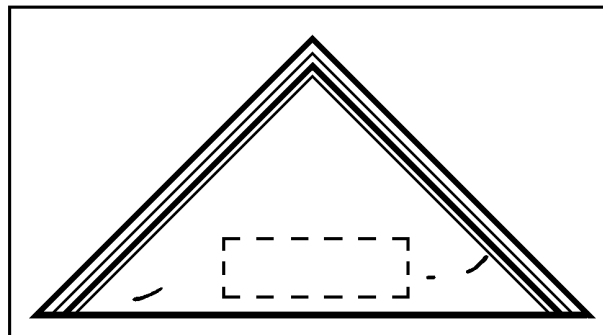

Figure 3-9
- c. Fold the corner nearest to you over the pack until the pack is completely covered. (See Figure 3-9.)